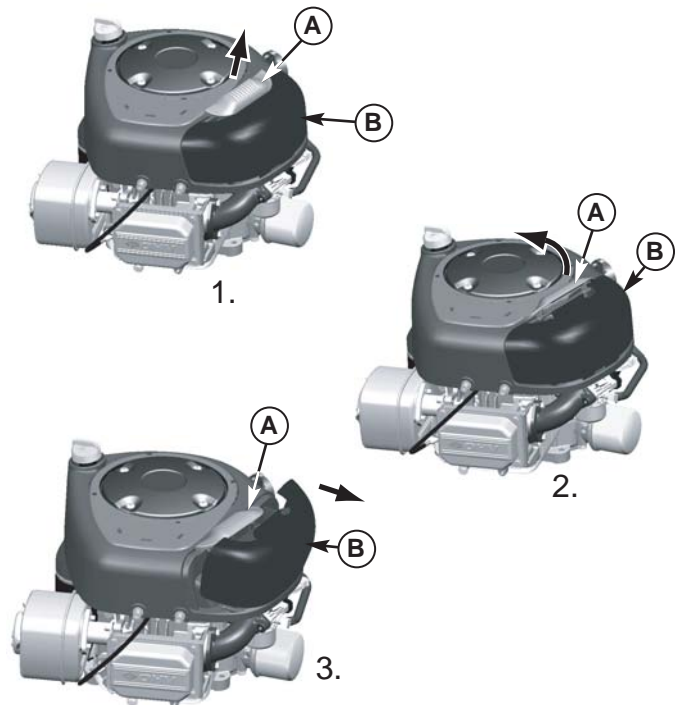

Figure 28. Air Filter Assembly - Briggs & Stratton Single Cylinder Models
1. Lift up on the bottom of the latch (A, Figure 28 or 29) and flip the latch away from the cover.